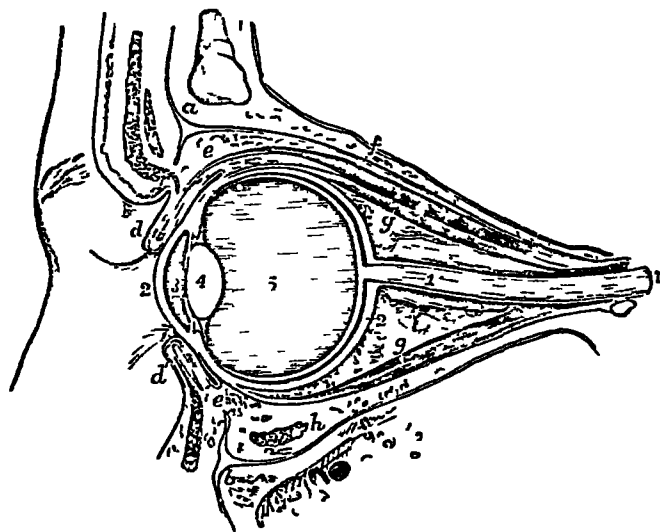

FIG 112
**The Eye**—The principal parts of the eyeball, regarded as an optical instrument are the transparent curved cornea in front, 2 (fig 112) the crystalline lens, a transparent double convex lens, 4, and the retina lining the inside, being the expansion of the optic nerve, 1, coming from the brain. The crystalline lens divides the cavity into two parts, the smaller in